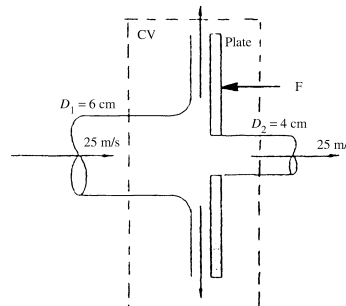

Fig. P3.64
**3.64** The 6-cm-diameter 20°C water jet in Fig. P3.64 strikes a plate containing a hole of 4-cm diameter. Part of the jet passes through the hole, and part is deflected. Determine the horizontal force required to hold the plate.